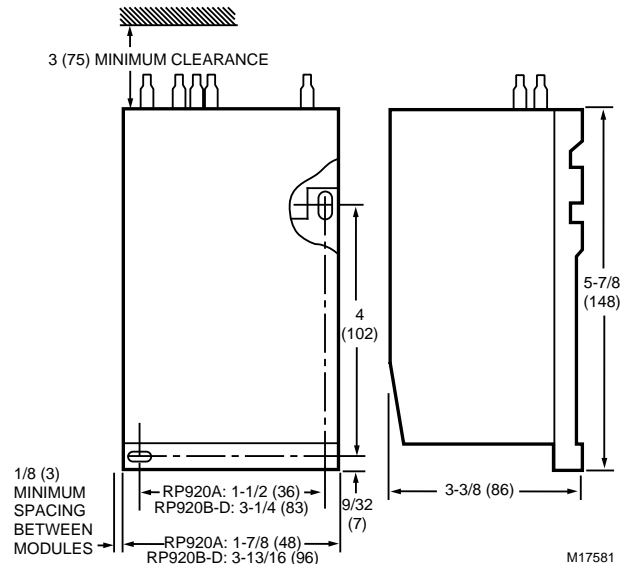

Fig. 1. RP920 Dimensions in in. (mm).
1. Mark and drill two No. 8 fastener mounting holes using the controller or Fig. 1 dimensions as a template.